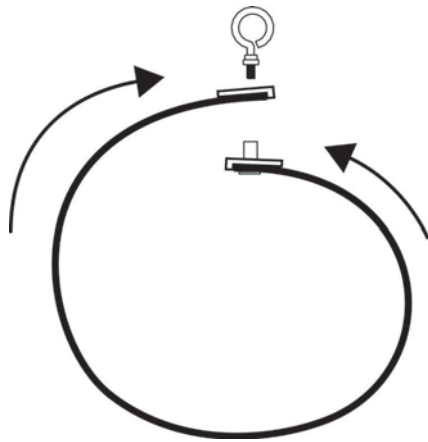

Fig. 47 *Wrapping the ends together.*
3. Wrap the ends of the section together (see Fig. 47).